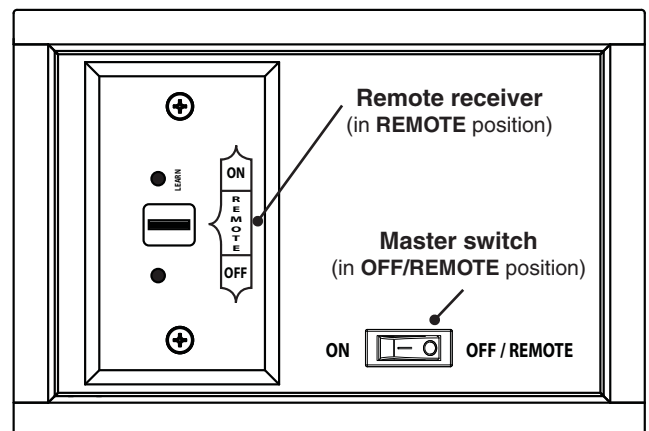

Fig. 29-1 Control panel detail
1. Ensure the master switch is in the **OFF/REMOTE** position (see Fig. 29-1).
2. Locate the 3-position switch on the remote receiver (see Fig. 29-1), and slide the switch to the **REMOTE** position.